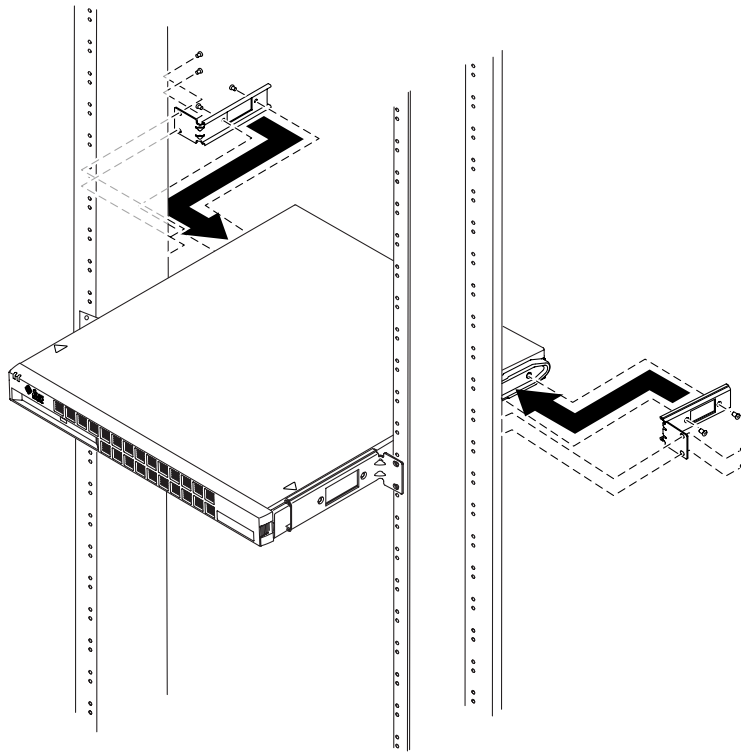

FIGURE 5-12 The Netra T1 Server Installed in a Two-Post Rack
5. Fit the two rear fixed brackets to the two tapped holes at the rear of the server on each side, using the Phillips-head countersunk screws provided (see FIGURE 5-12).